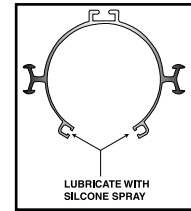

Fig. 4
- Lubricate the lower hollow, the length of the entire rail with silicone spray. See Fig. 4